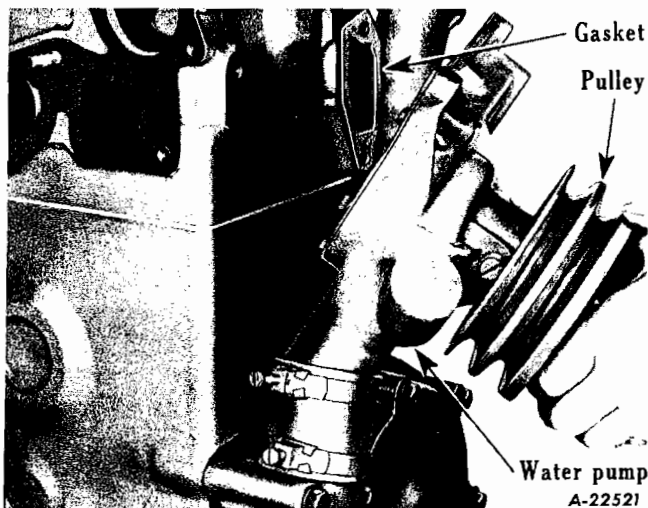

Fig. 54 - Installing Water Pump
5. **INSTALL WATER PUMP.** Place water pump gasket in position, at water pump opening in front of cylinder head (Fig. 54). Install water pump and fan and install three capscrews and lockwashers in pump and cylinder block.